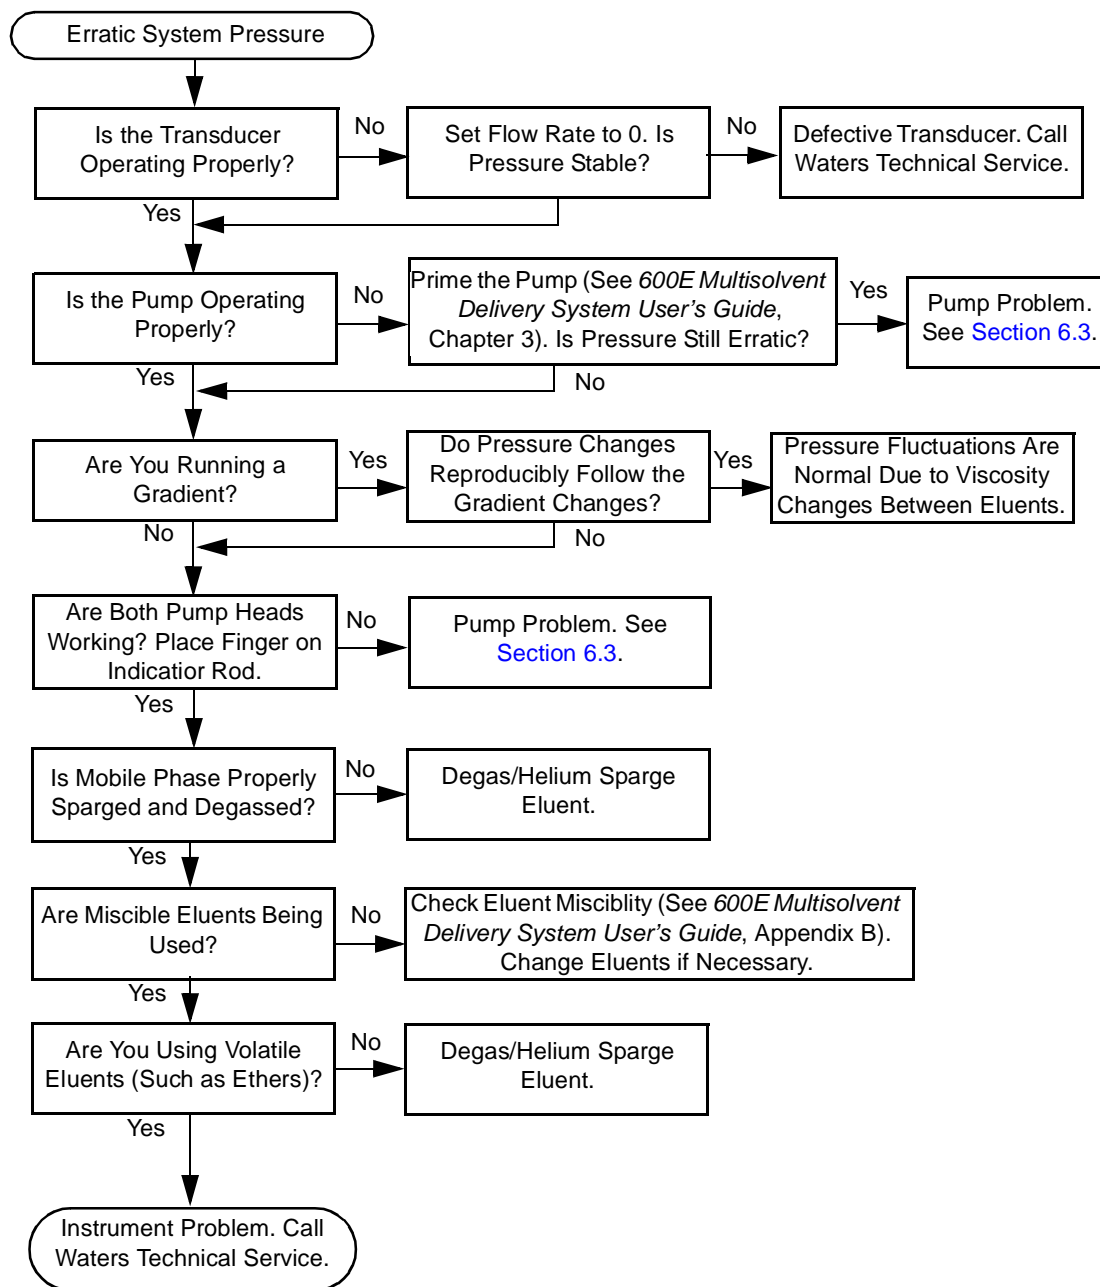

Figure 6-3 Erratic System Pressure Troubleshooting
System pressure troubleshooting is presented in a flow diagram format. Use Figure 6-1, Figure 6-2, and Figure 6-3 to investigate pressure-problem sources.
To isolate the origin of high system pressure, slowly loosen inlet or outlet fittings as instructed (see Figure 6-1, Figure 6-2, or Figure 6-3) and observe if pressure stays the same or decreases. Use a tissue to prevent eluent spray and to collect any spilled eluent.
- Erratic system pressure troubleshooting (Figure 6-3)